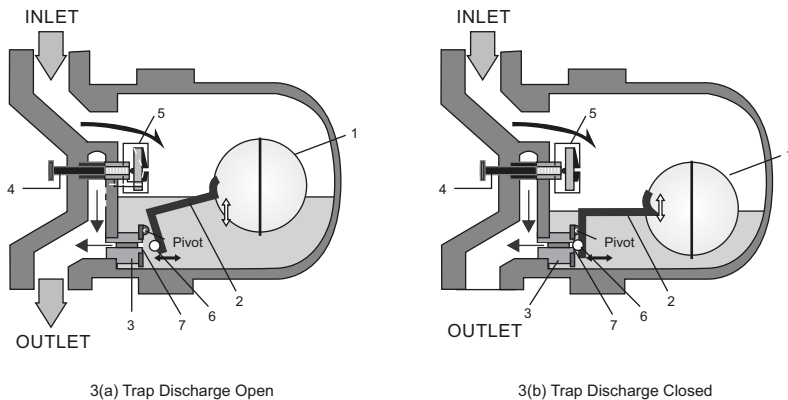

Figure 3: Float trap working
4. Product Working Principle : (Refer to Figure 3)
Figure 3 shows a simple float trap operational representation. A float trap works on the Buoyancy Principle. Condensate enters the trap body and raises the float (1). The position of the float (1) depends upon the level/load of condensate (flowrate). The float trap continues to discharge condensate continuously and doesn't allow back up of condensate as long as the load is within the discharge capacity.
*The float trap in the figure 3. shows a TV+SLR assembly. SOFT54 comes with only SLR assembly